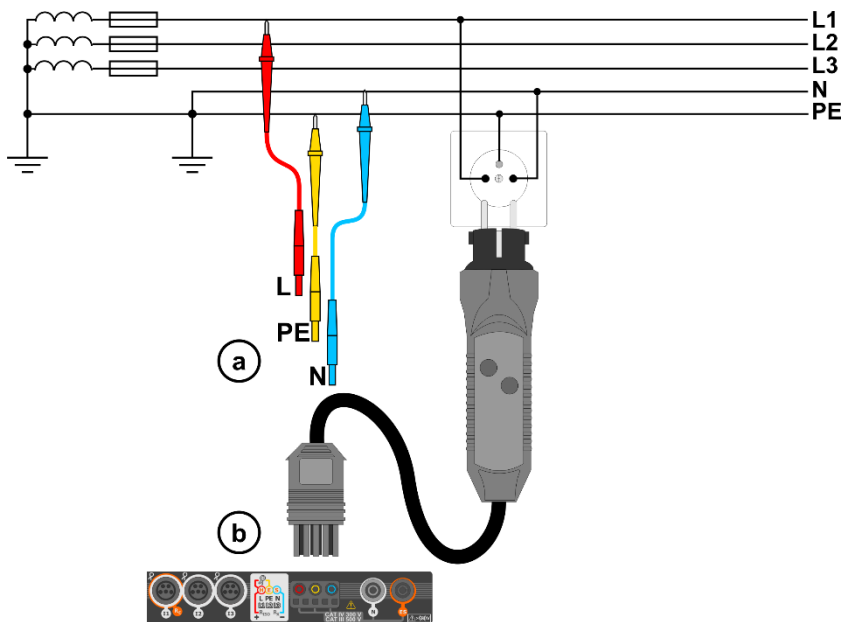
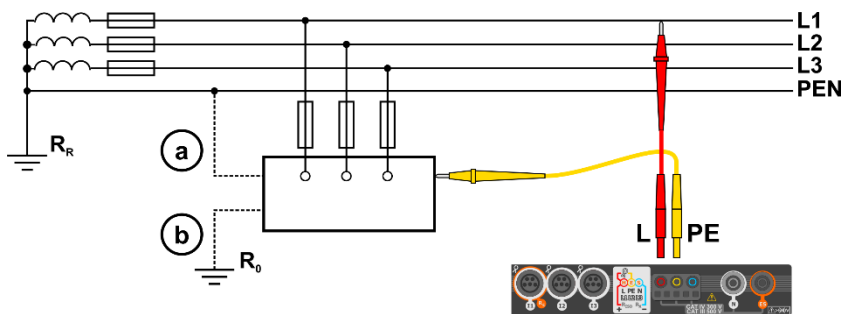

Fig. 3.1 Measurement in L-PE circuit
Fig. 3.2 Checking effectiveness of protection against electric shock of the meter housing in case of: **a** TN network or **b** TT network
- 1 Connect test leads according to Fig. 3.1 or Fig. 3.2.